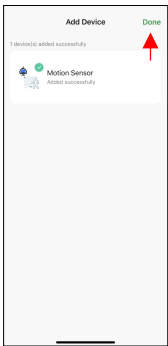

Figure 4
6. Once the sensor is connected, press Done. *See Figure 4.*